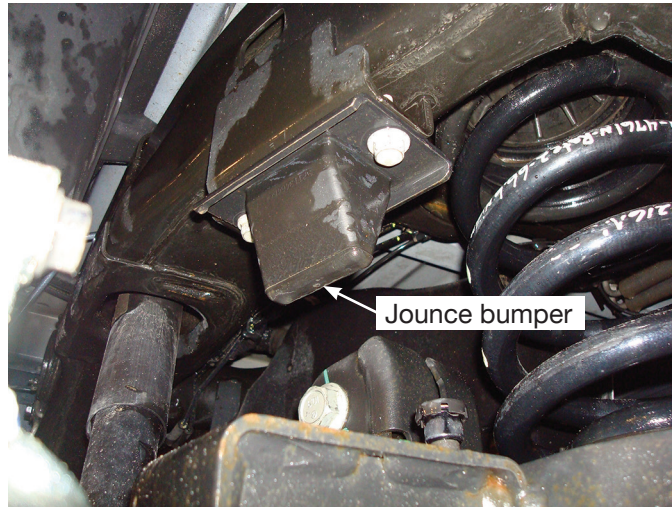

fig. 6
- Remove the jounce bumpers from both sides (Figs. 6 & 7).